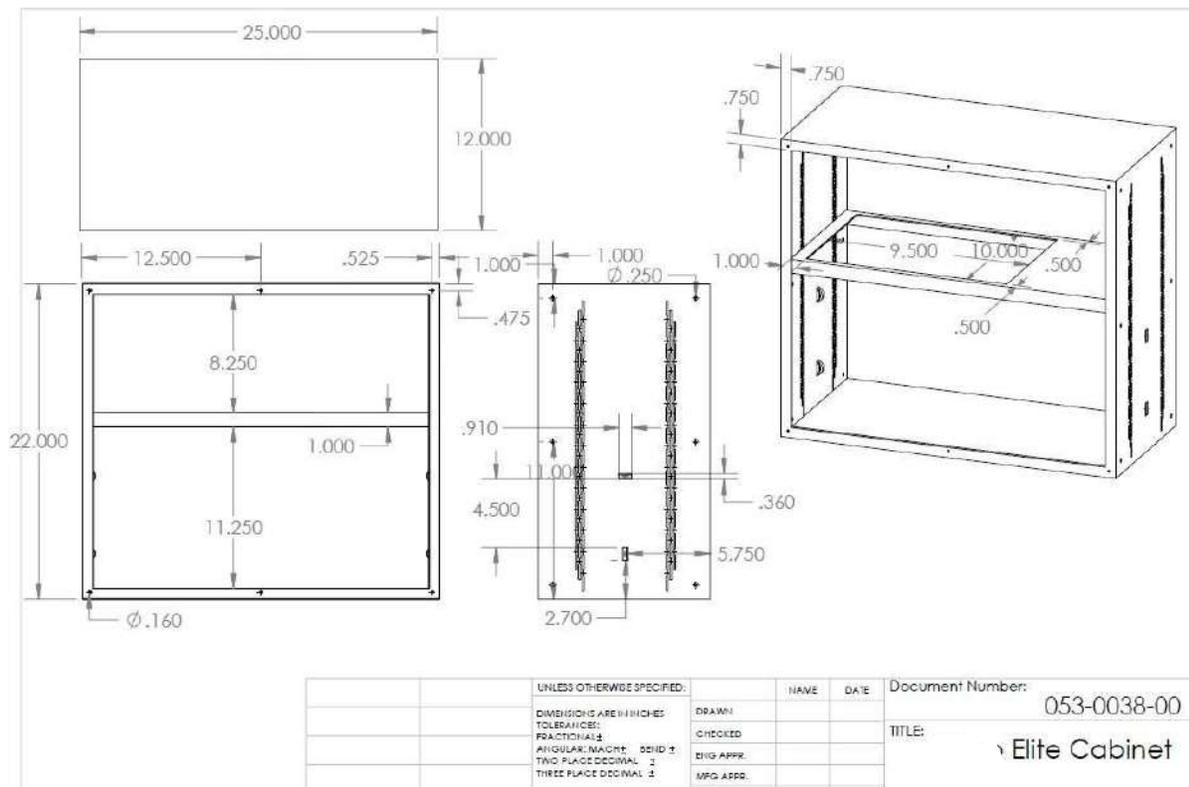
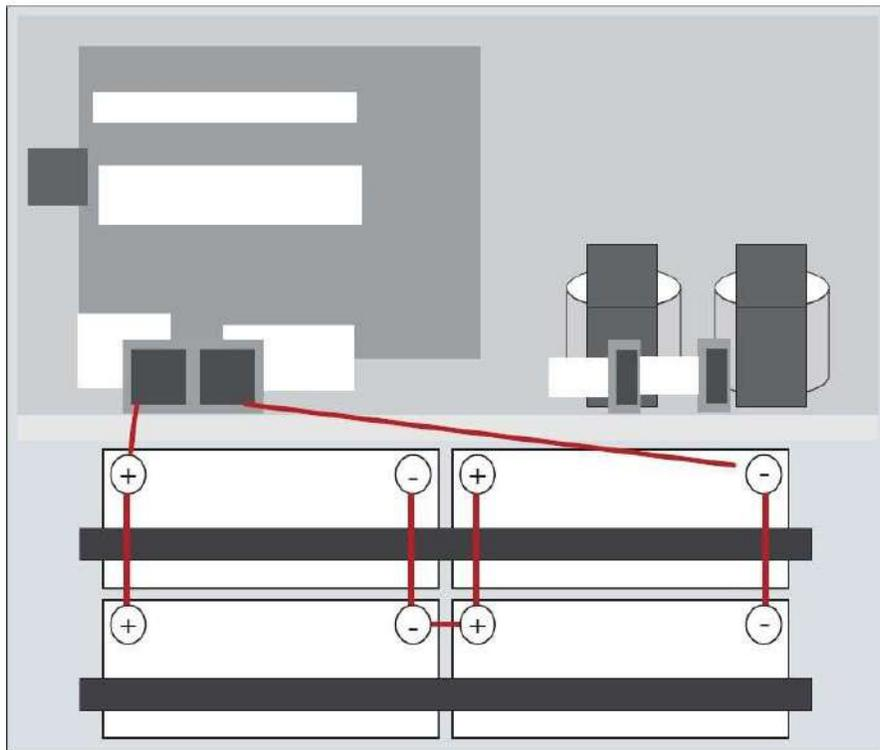

Figure 1
Figure 2
Note: Per code requirements, leave 3” on each side of the cabinet (including the back) and 3-foot clearance in front (Refer to Figure 1).
6.1.5. Make sure the proper polarity is observed. DC bus should be between 23.1 and 27.6 Vdc as tested at the Battery Bus Terminals (Refer to Figure 2 and 6—System Component Layout).
6.1.7. Securing the batteries. Each Unit will come with a couple banding poly plastic strips (See figure 2), along with a couple metal buckle to tighten the batteries to the cabinet. The cabinet was designed with four battery strap holders. These are located on each side of the cabinet (See figure 1). The bottom two (vertical opening - left and right) are to secure the battery to the back wall when strapped. The two on top (horizontal opening - left and right) are to secure the battery to the bottom of the cabinet.